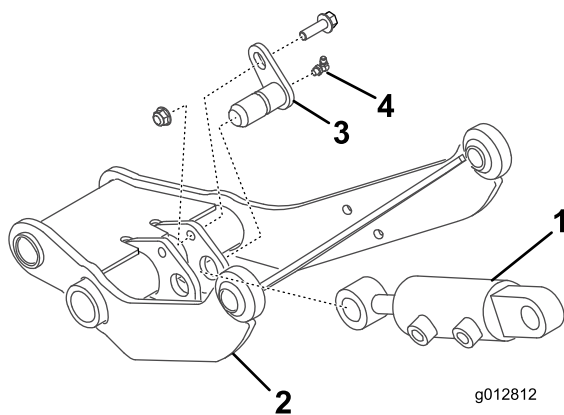
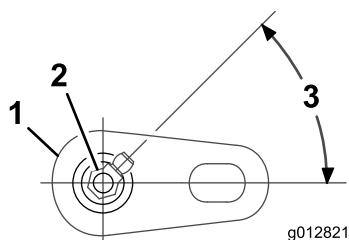

Figure 4
Figure 5
5. Mount the rod end of the hydraulic cylinder to the lift arm with a pivot pin (Figure 4).
- Secure the pivot pin to the lift arm with a screw ($\frac{3}{8} \times 1\frac{1}{4}$ inch) and a flange nut ($\frac{3}{8}$), positioning as shown in Figure 4.
- Thread a 90 degree grease fitting into the end of the pivot pin (Figure 4). Position the grease fitting as shown in Figure 5.